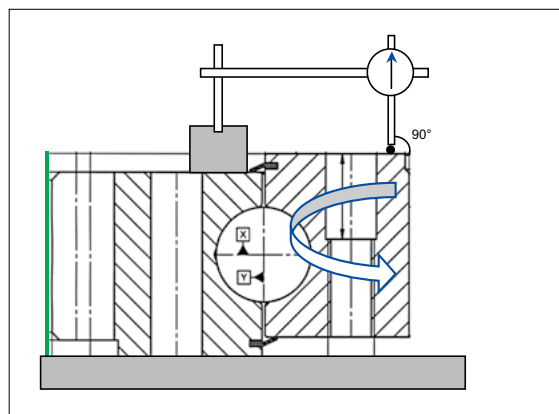

Fig. 3
- 7.1.1 Place the magnetic base of the dial gauge on the external ring. The feeler pin is placed in the inner ring mounting surface (See fig. 3).